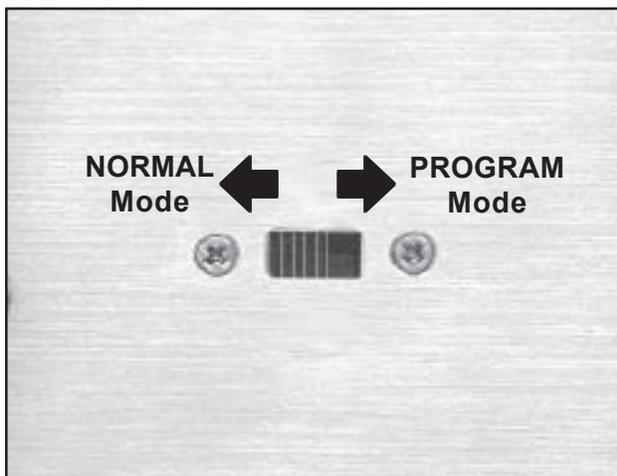

Figure 17. Mode Switch
2. On the rear of the display console, move the Mode switch to the right (**PROGRAM**) (Figure 17). Refer to *Using the Mode Switch* on Page 25.